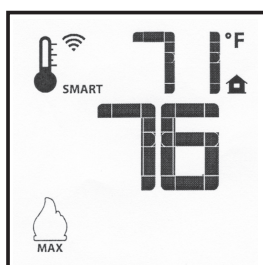

Figure 37 - Remote Control Displaying Room Temperature and Set Temperature
1. To activate this function, press the **Thermostat** key until the word "Smart" appears to the right of the temperature bulb on the screen (see Figure 37).